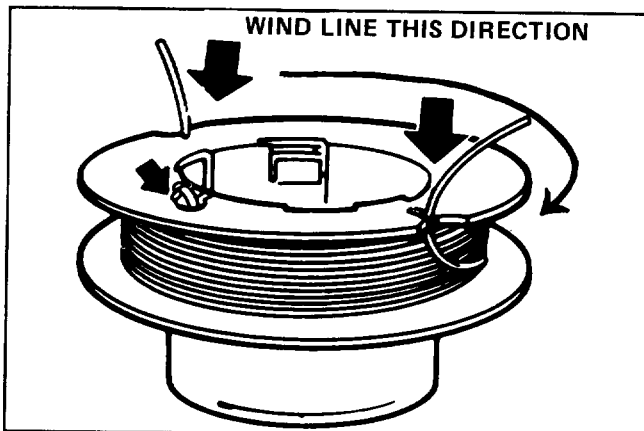

Figure 10
A. Hook one end of each line into the keyhole slot on spool. Wind both lines together around spool in level rows between spool flanges in direction shown in Figure 10.
- C. Keep line tight on spool by securing in spool notches, leaving about 4 inches of line extending beyond notch (Fig. 10).